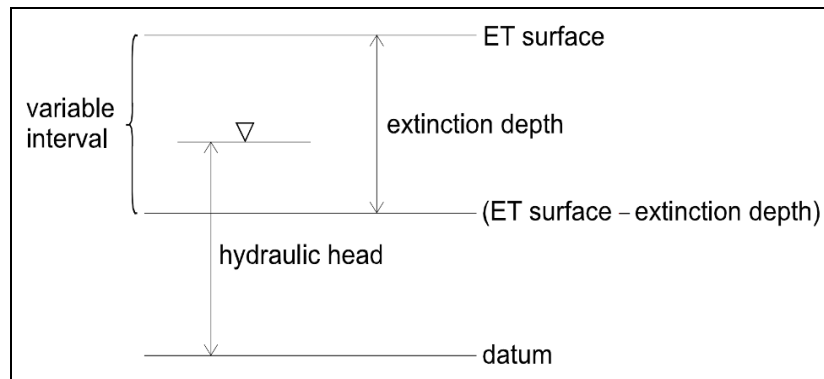

Figure 1 ET model, from Banta (2000)¹
The EVT package has existed at least since MODFLOW 88. It requires three parameters to determine evapotranspiration: the evapotranspiration (ET) surface elevation, the maximum ET rate, and the extinction depth. When the head in a cell is at or above the ET surface, ET occurs at the maximum ET rate. When the head is below the extinction depth, ET is zero. In between these two points, the ET varies linearly (Figure 1).